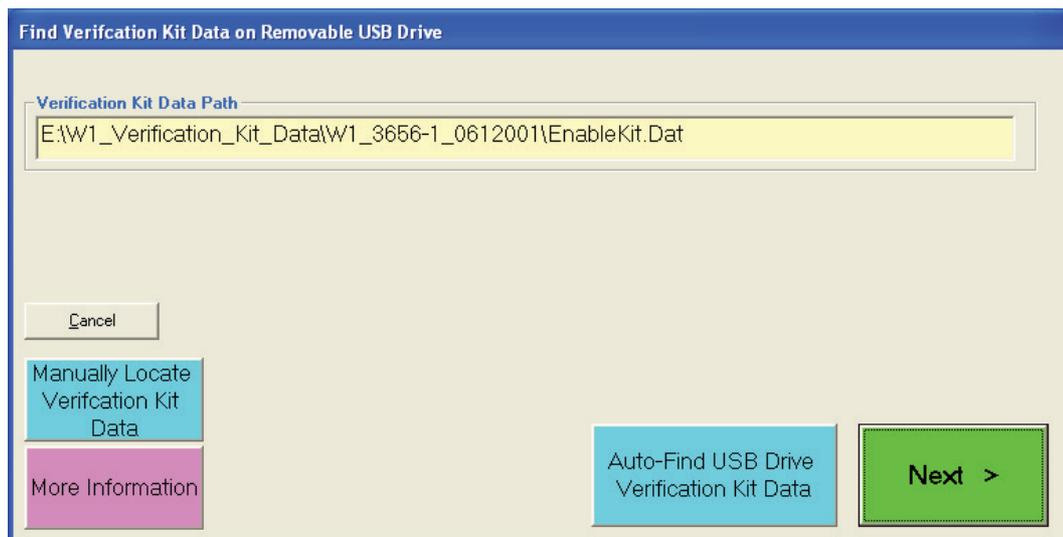

Figure 3-20. USB Drive Locator Dialog
- When the Auto Find Verification Kit Data dialog box first appears, see Figure 3-20, the Verification Kit Data Path text field is blank. Click the Auto-Find USB Drive Verification Kit Data button. The application automatically locates the verification kit data on the USB drive and displays the path in the Verification Kit Data Path text field.